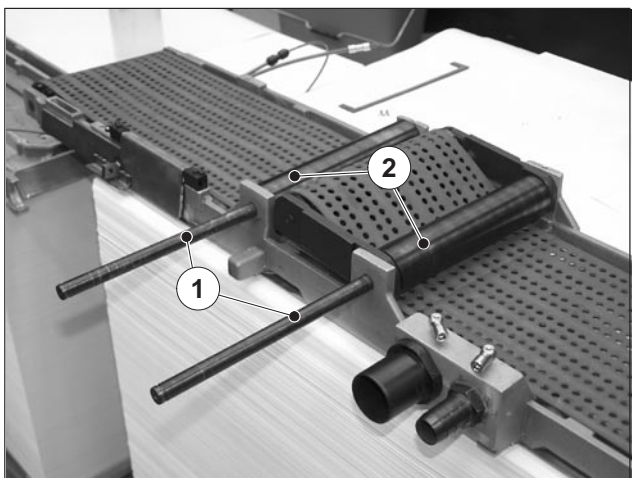

Fig. 94 Installing the idler pulley
3. Place the tape guide rollers (Fig. 94/2) between the roller bearings.
4. Insert the shafts (Fig. 94/1) into the roller bearings. Push the shaft through the first roller bearing and the roller until it is in contact with the borehole of the second roller bearing.